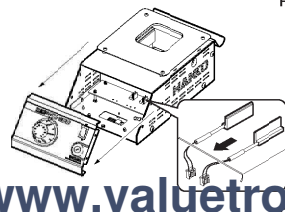

Fig. 5
4. Slide the front panel forward, disconnect the two connectors (Fig. 4) from the connector circuit board, and then pull out the units of the heating elements (Fig. 5).